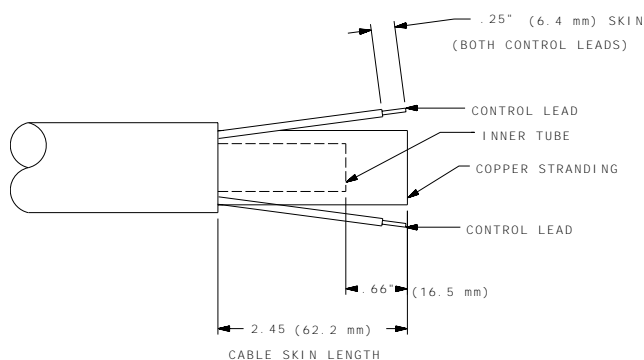

Figure 3
- e. Cut off the damaged section of cable and strip off the outer jacket as shown in Figure 3. Be careful not to cut the insulation on the control wires while stripping jacket. Strip the red and white control leads .25" (6.4mm) from the end and crimp a new S19492-2 terminal to each lead.
- e. Cut off the damaged section of cable and strip off the outer jacket as shown in Figure 3. Be careful not to cut the insulation on the control wires while stripping jacket. Strip the red and white control leads 1/4” (6.4mm) from the end and crimp a new S19492-1 terminal to each lead. Trim the inner tube to dimensions shown.